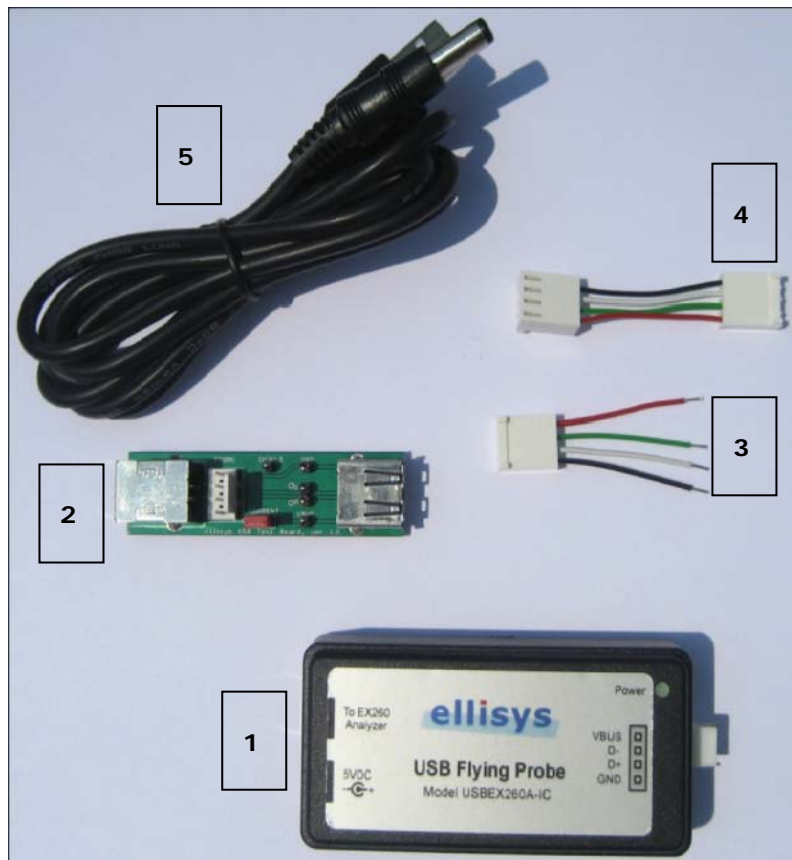

Figure 1 - Flying Probe Kit Contents
An alternative use of the probe kit is to access a standard USB connection (involving Type A and Type B connectors) with the USB Test Board (see Figure 1), which provides a convenient 4-pin tap for access by the Flying Probe, along with jumpers on each line that can be removed for testing purposes and an in-line jumper to be used for current measurement.
The probe kit consists of the following (see Figure 1):
1. Connect the Flying Probe Body (see Figure 1, item 1) at the Type B port marked "To EX260 Analyzer" to an Ellisys USB Explorer 260 Protocol Analyzer (front-panel Type A Port) using a standard Type A-to-Type B USB Cable (not supplied).
2. On the Flying Probe Body, power the port marked "5VDC" using the supplied USB Power Cable (Figure 1, item 5) from any USB Type A connector.